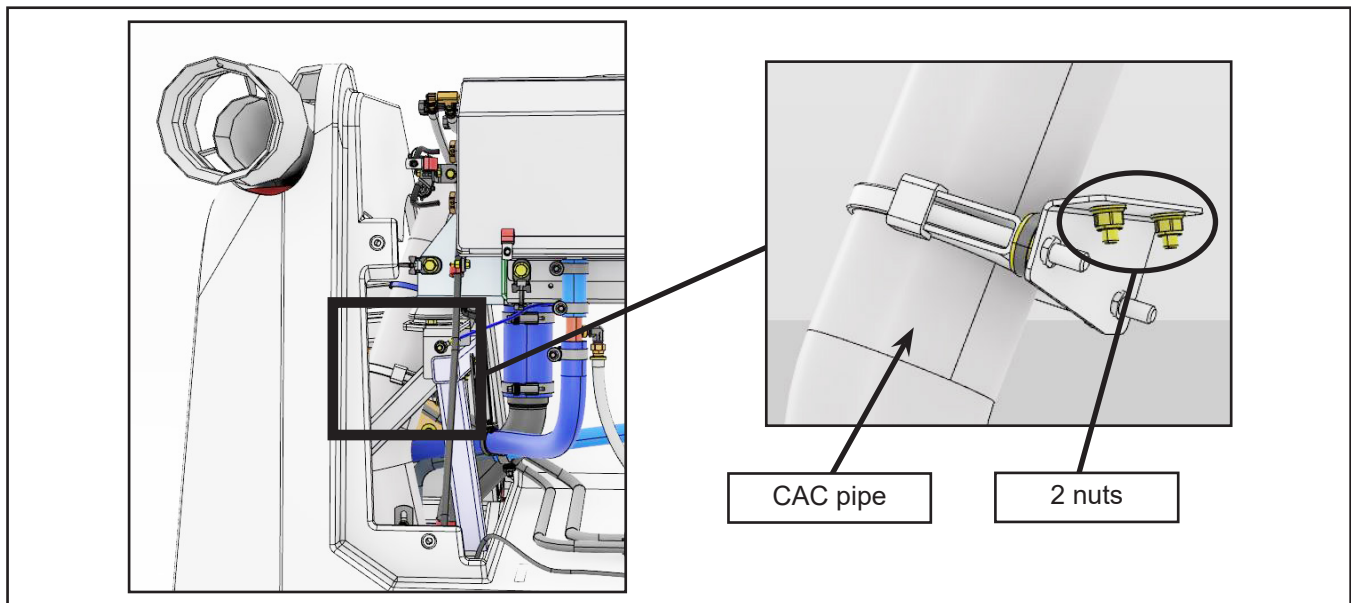

Figure 7 - Remove 2 Nuts Holding CAC Pipe to the Structure
- b. Move away Charge Air Cooler pipe from structure by remove the 2 nuts holding the pipe mount to the structure (Figure 7).